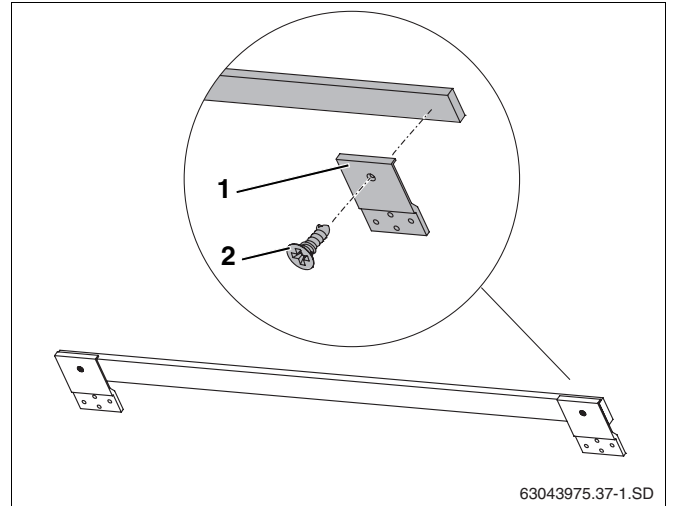

Fig. 10 Pre-assembling anti-slip protection devices with strip of wood
For landscape installation, 3 anti-slip protection devices (Fig. 10, **Item 1**) must be fastened to one strip of wood (2 on the outside, 1 in the middle).
- ▶ Fasten two anti-slip protection devices (Fig. 10, **Item 1**) to the end of the strip of wood provided, using screws 4×10 (Fig. 10, **Item 2**).